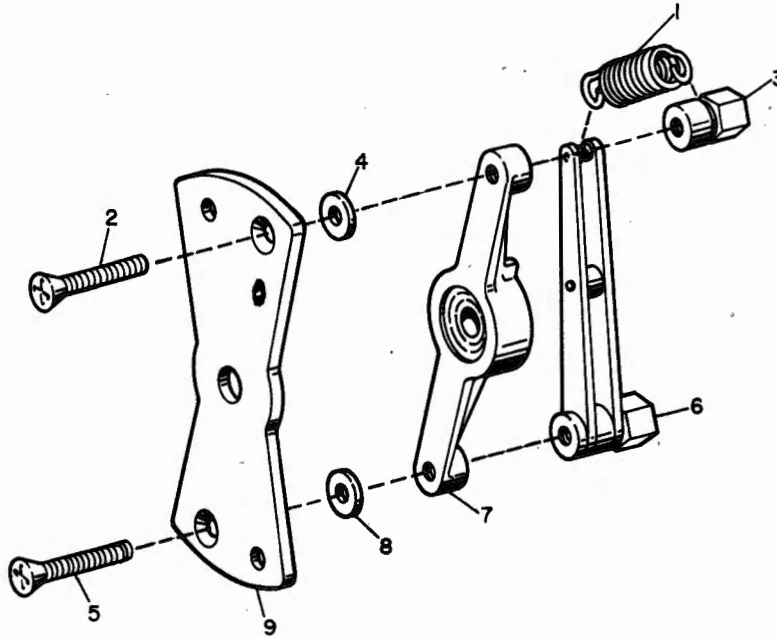

Figure 3-4. Radio Frequency Amplifier
d. DETENT ASSEMBLY. - To disassemble detent assembly, refer to figure 3-4 and disassemble detent assembly in order of index numbers starting with number 1.